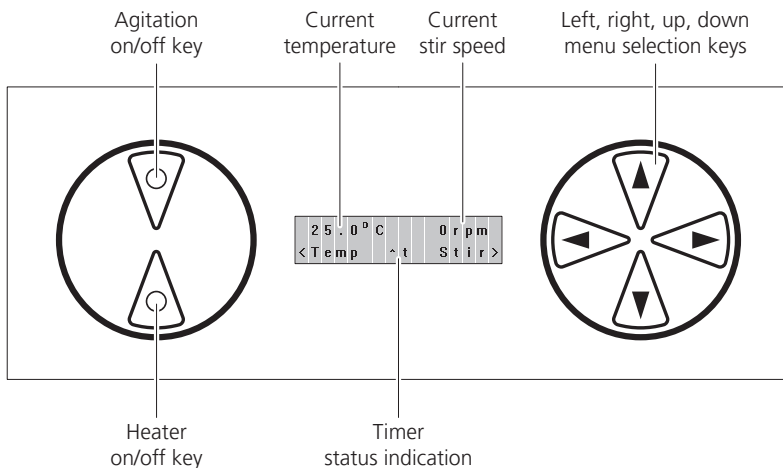

Figure 7-4
- 7.4.2. The LCD display will go through a warm and self check routine that will take a few seconds during which the Digi-Mantle Software revision will be displayed for 5 seconds before conformation. Upon completion of the routine the Digi-Mantle LCD will then display the type of heating apparatus being used. (See figure 7-4).